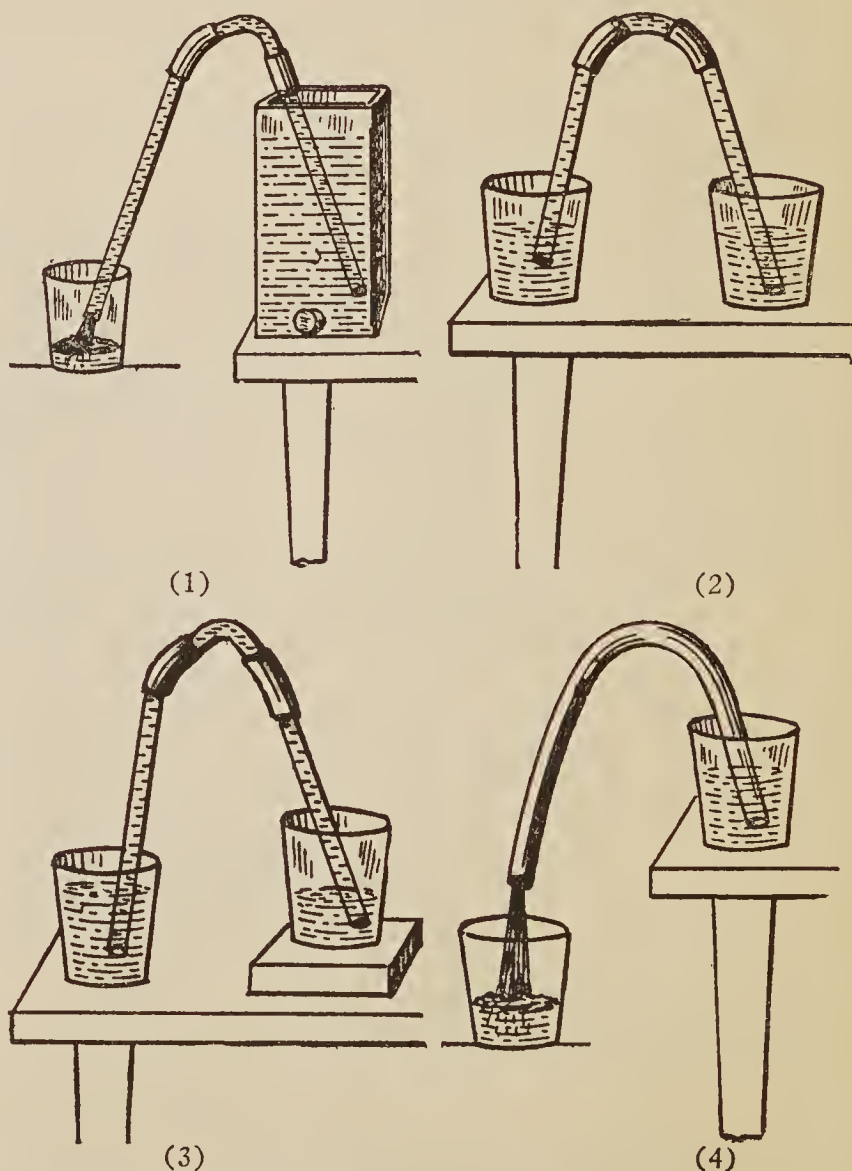

Fig. 30.—Illustrating the Siphon.
Arrange the apparatus as in (1), Fig. 30. Place one arm of the siphon in the water and while holding the other arm outside the tank below the water level suck the air out of the siphon until the water runs.
Siphon water out of a full tumbler into an empty tumbler and while the water is running stand them side by side on the table, (2), Fig. 30.
Place one tumbler on a block of wood or a book as in (3), Fig. 30.
Repeat the above experiments with the rubber hose, (4), Fig. 30, used as a siphon.